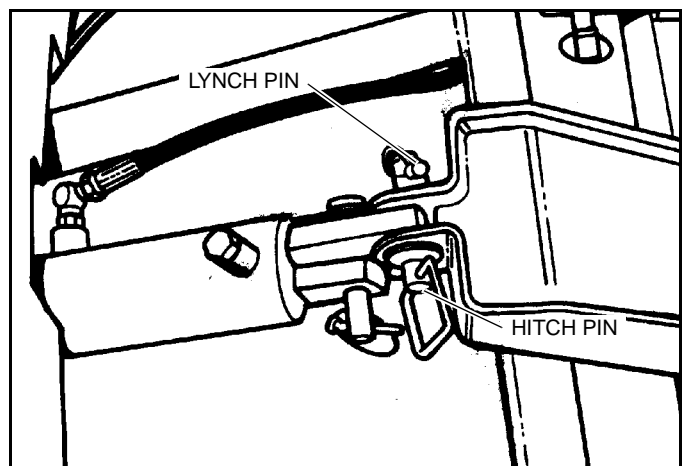

Figure 1-3
6. Pull the lift cylinder to extend it until the mounting hole in the Loose Link is aligned with the mounting hole of the Center Pivot of the Mounting Frame. Install the center pivot hitch pin and install the Lynch Pin into the Hitch Pin to secure it in place. See Figure 1-3.